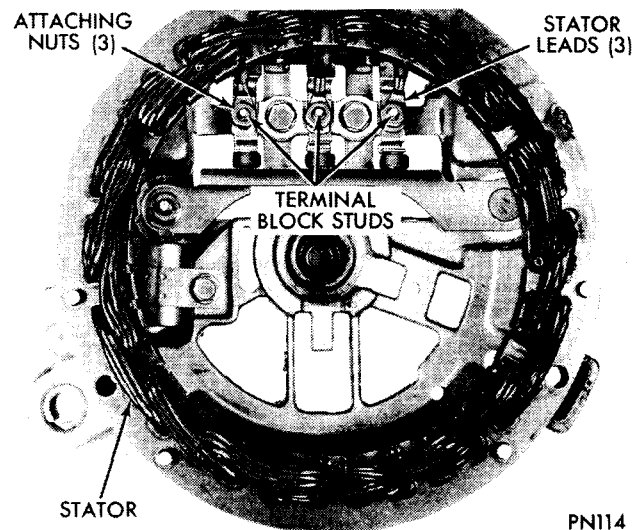
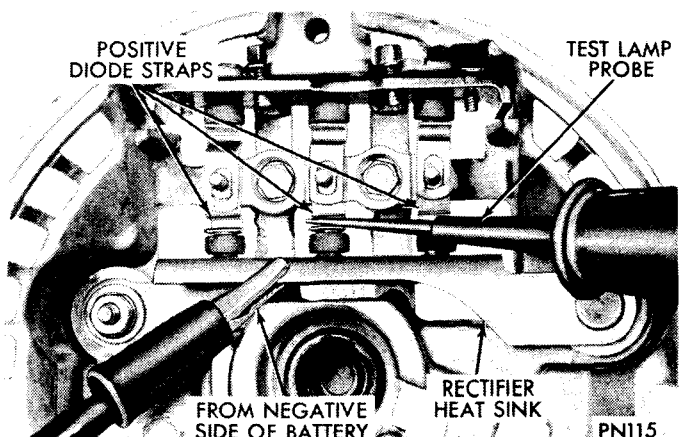

Fig. 16—Rectifier End Shield and Stator Assembly
Fig. 17—Testing Positive Rectifiers with Test Lamp
- (1) Remove nuts from studs on terminal block securing stator windings, positive, and negative rectifier straps to block, (Fig. 16).
- (2) Lift off stator winding terminals and carefully pry stator assembly from end shield.
- (3) Test rectifiers with a 12 volt battery and a test lamp equipped with a number 67 bulb (4 candle power) by connecting one side of test lamp to positive battery post; other side of test lamp to a test probe with other test probe connected to the negative battery post.
- (4) Contact the heat sink of rectifier with one test probe and other test probe to strap on the top of rectifier (Fig. 17).